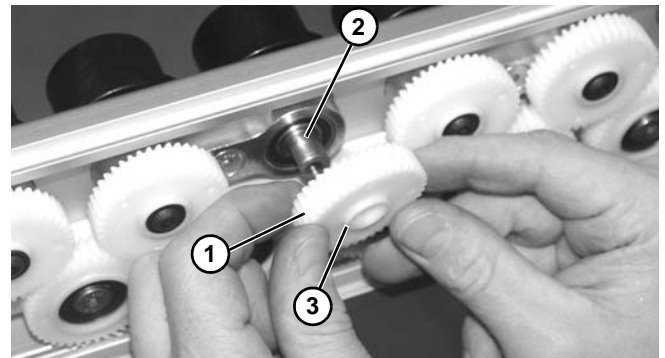

Figure 60
5. Remove the gear (**Figure 60, item 1**) from the roller shaft (**Figure 60, item 2**). Make note of the raised flange (**Figure 60, item 3**) on the gear. This raised flange should be installed toward the outside.